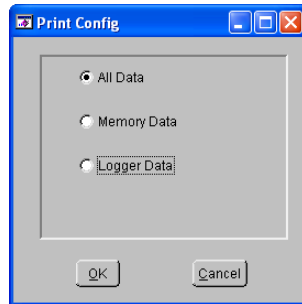

Figure 4.
Select the data to be printed from the following three (3) choices: (see Figure 4)